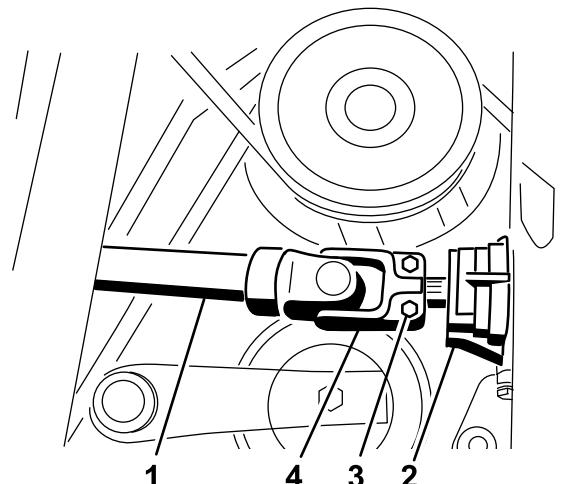

Figure 36
6. Loosen the PTO drive shaft bolts and nuts. Remove the roll pin and pull the drive shaft off of the gearbox shaft (Figure 36).